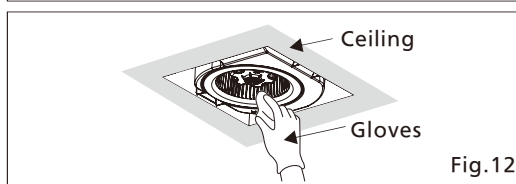

Fig.12
4. Using a cloth dampened with kitchen detergent, remove any dirt from fan body. Wipe dry with clean cloth. (Fig.12)